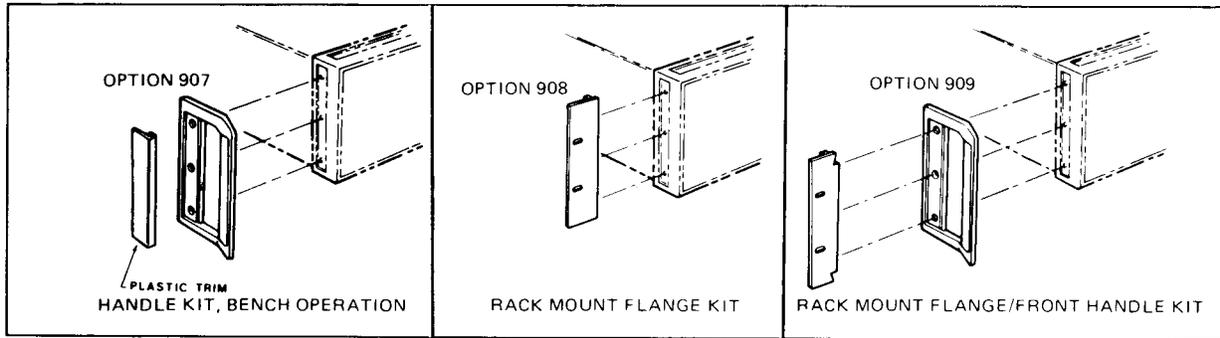

Figure 2-2. Rack Mount and Handle Kits
- a. Remove the plastic trim (Figure 2-2) and front handles from the 3585A if it is so equipped.